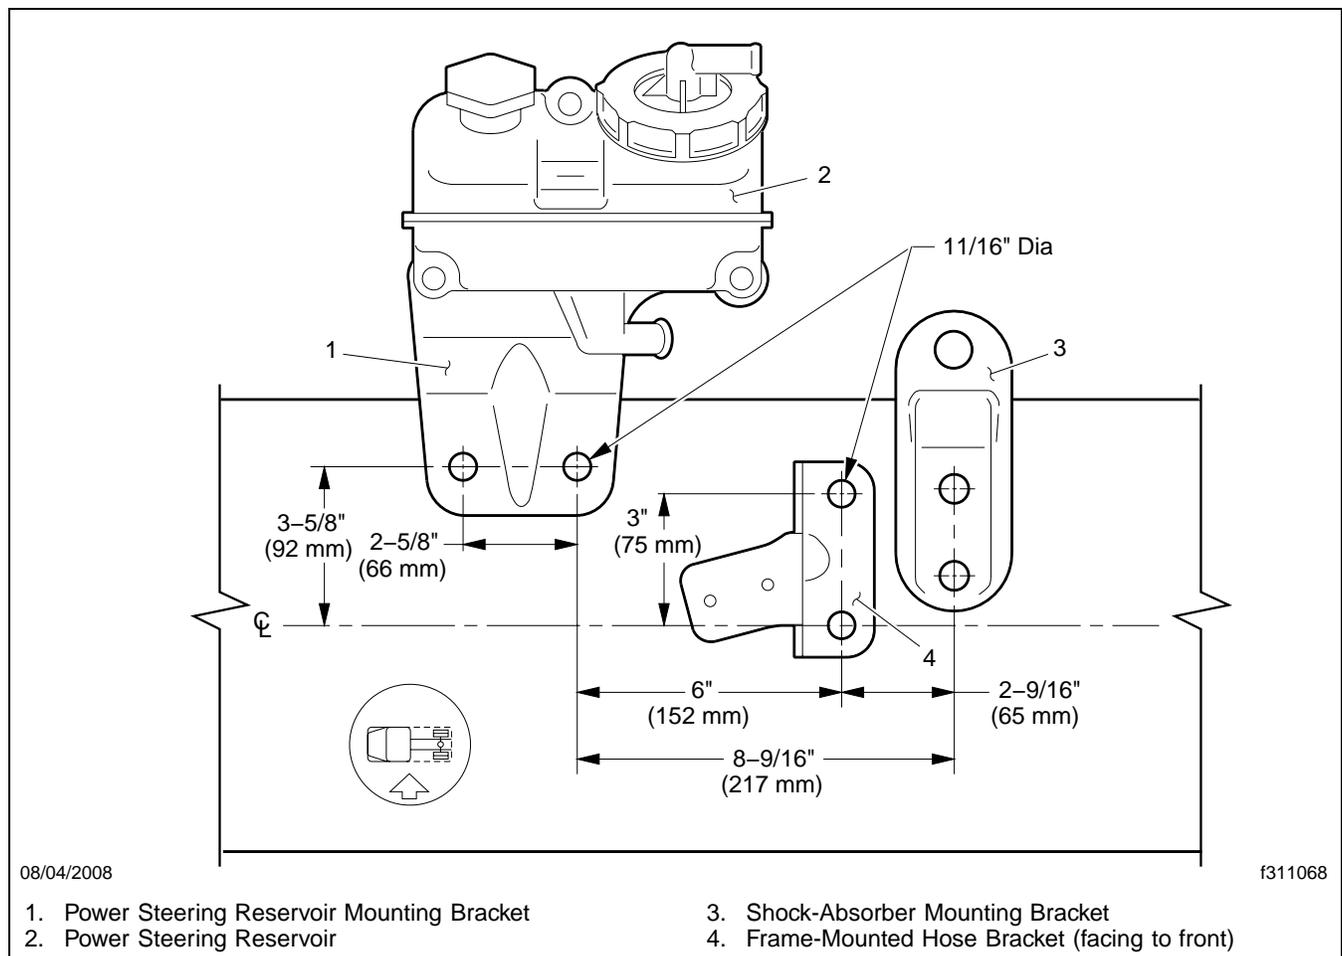

Fig. 1, Drilling and Mounting Locations
13. Mark the layout of the holes on the frame, using the drilling diagram. See Fig. 1.
30. Install the frame-mounted hose bracket, as shown in **Fig. 1**.